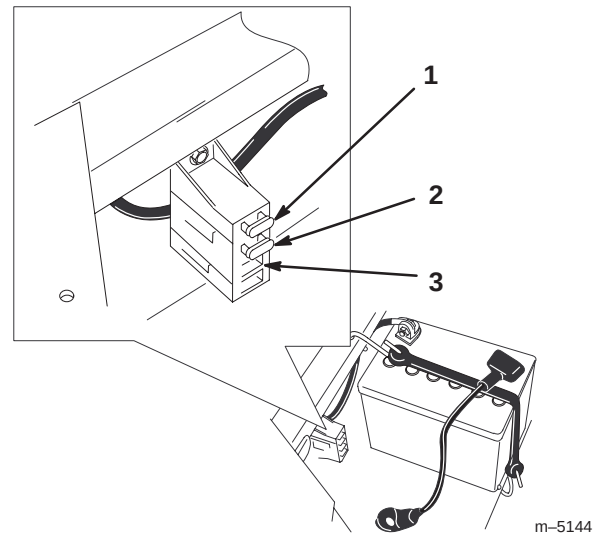

Figure 46
- Raise the seat to gain access to the fuse holder (Fig. 46).
- To replace a fuse, pull out on the fuse to remove it (Fig. 46).